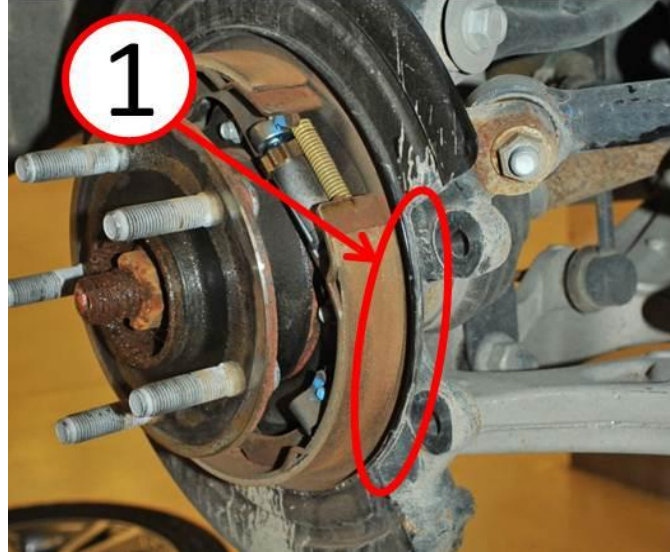

Fig. 2 Dust Shield Affected Area
5. The dust shield may have been pushed outboard and contacted the brake rotor due to the incorrect length brake caliper adapter bolts. Push firmly on the dust shield in the area directly across from where the brake caliper adapter mounts in order to reposition the dust shield inboard toward the vehicle (Fig. 2).